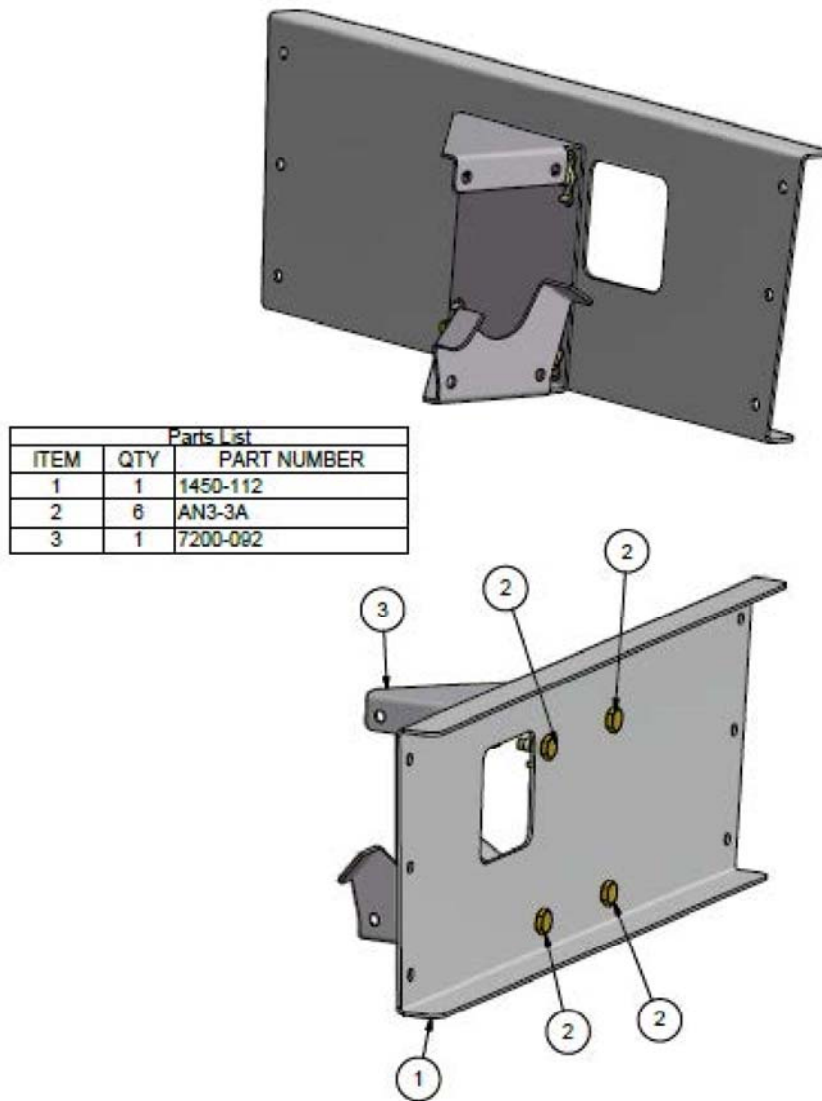

Figure 3-7
- x) Attach the Pitch Bracket Assembly to the Pitch Plate as shown in Figure 3-7. Torque AN3-3A bolts to 20-25 in-lb. In the 177RG the former cover will be located between the Pitch Bracket Assembly (7200-092) the Pitch Plate (P/N 1450-112).